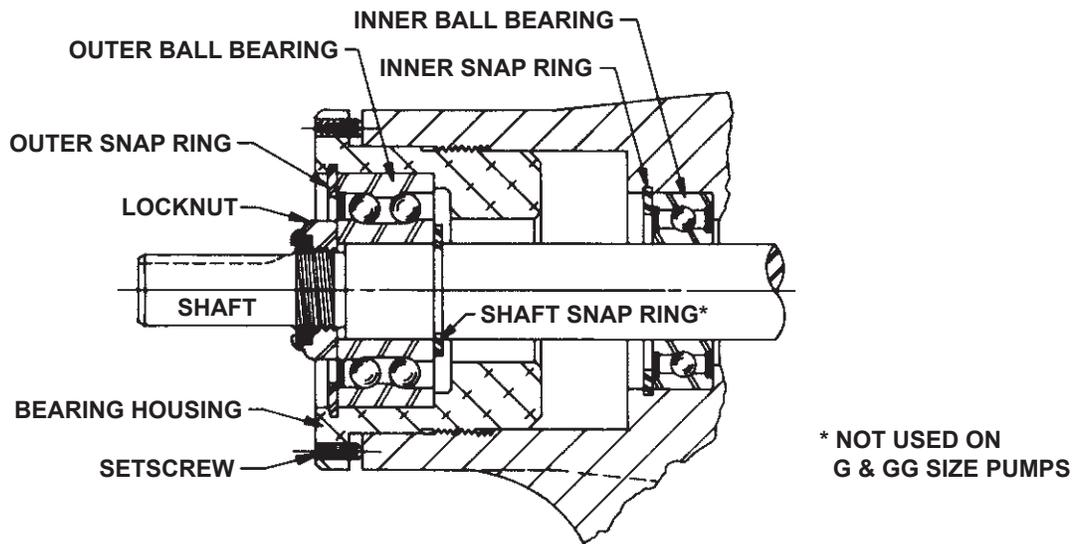

FIGURE 9 - THRUST BEARING ASSEMBLY G, GG, H, HJ AND HL SIZES
6. Insert a brass bar or piece of hardwood in the port opening and between the rotor teeth to keep the shaft from turning. Turn the locknut counterclockwise and remove locknut. See **Figure 9 or 10**, page 6.
7. Loosen the two setscrews in the face of the bearing housing and turn the thrust bearing assembly counterclockwise and remove from casing. See **Figure 9 or 10**, page 6.
8. **H, HJ, HL:** Remove the snap ring from the shaft. See **Figure 9**, page 6.
G, GG, H, HJ, HL: Remove the outer snap ring from the bearing housing and remove the ball bearing. See **Figure 9**.
13. H, HJ, HL: Install the shaft snap ring in groove in the shaft. See **Figure 9**, page 6.
14. G, GG, H, HJ, HL: Install the ball bearing into the bearing housing See **Figure 9**, page 6. Install the snap ring into bearing housing to retain ball bearing. This snap ring has a tapered edge to fit tapered groove in bearing housing. The tapered edge is located away from the ball bearing.
See **Figures 9 and 10**.